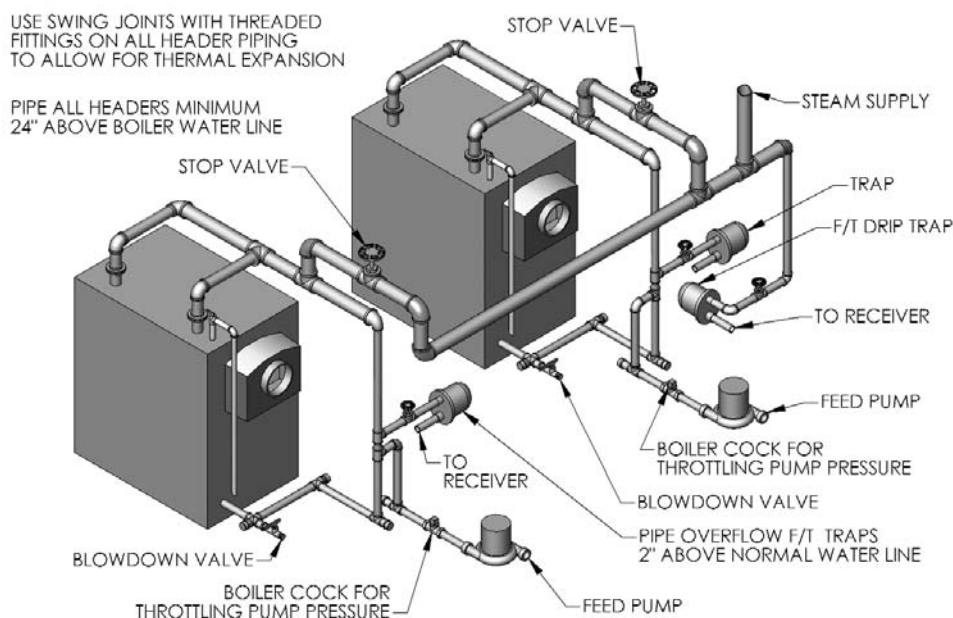

Figure 3.5: Multiple Steam Boiler Piping – Pumped Return
2. Figure 3.5 shows typical piping for multiple steam boiler pumped return systems.